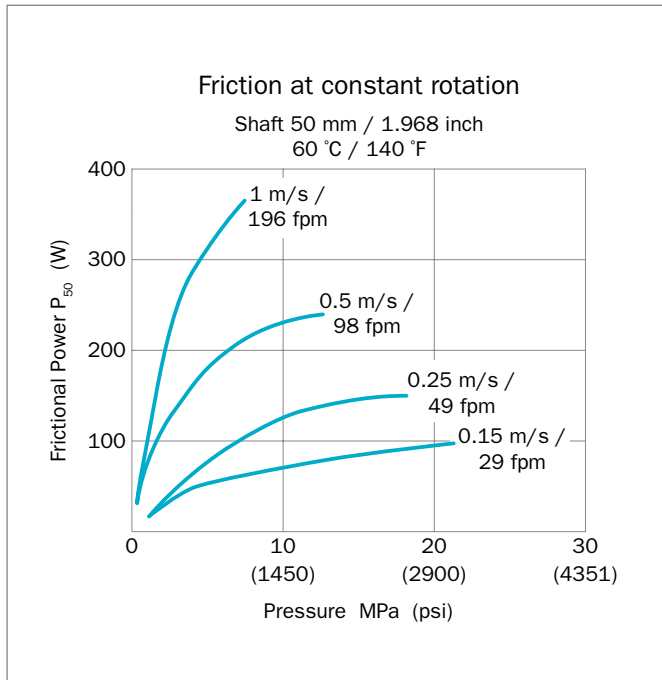

Figure 149: Frictional power for Turcon® Roto VL Seal®
Guide values for the frictional power (P) can be determined from the graph in Figure 149. They are shown as a function of the sliding speed and operating pressure for a shaft diameter of 50 mm with an oil temperature of +60 °C. At higher temperatures, these application limits must be reduced.